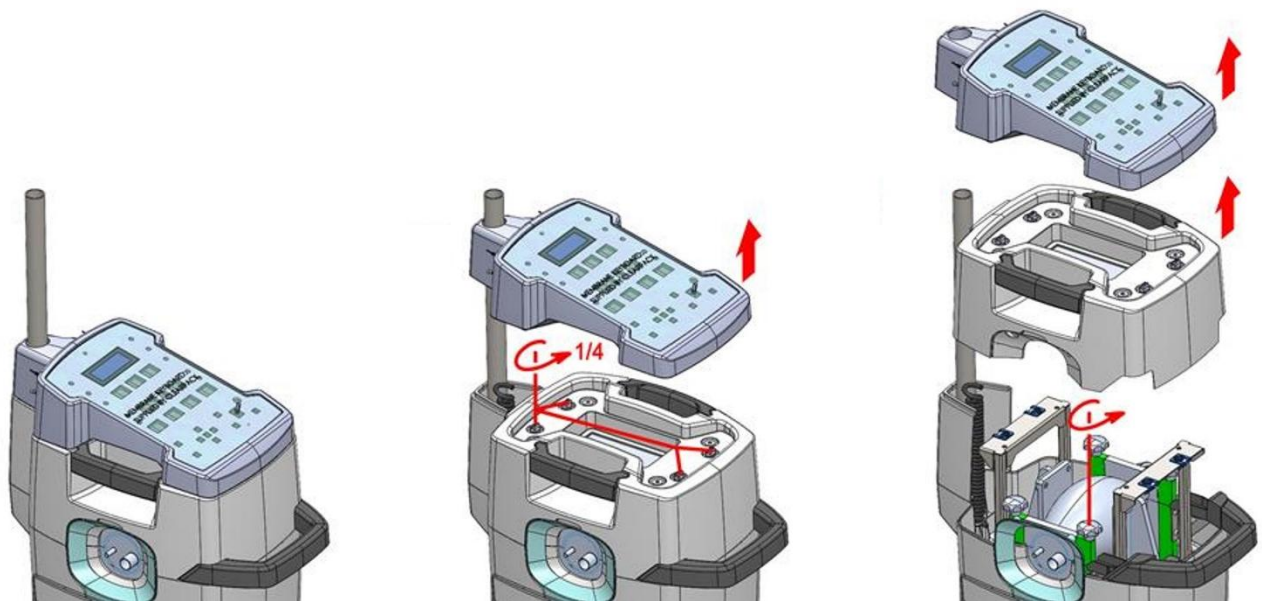

Figure 9: Installing BVM Bag
- Connect the Breathing Circuit to the Ventilator as illustrated in Figure 9.